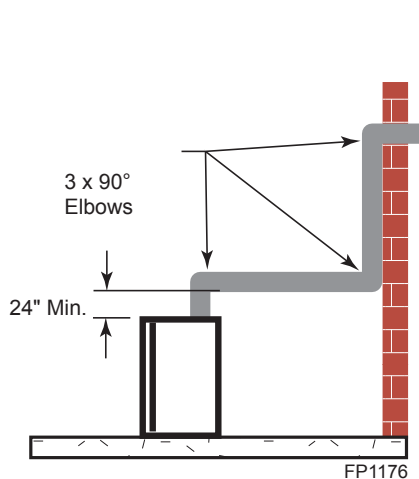
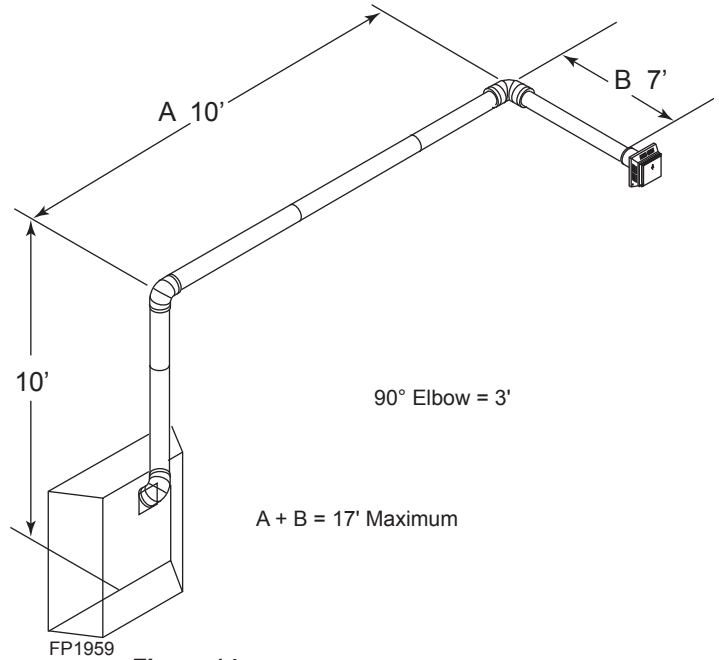

Figure 11 - Maximum Three (3) 90° Elbows Per Installation
Figure 14 - Maximum Vent Run with Elbows
- The maximum number of 90° elbows per side wall installation is three (3). *Figure 11*
- If a 90° elbow is used in the horizontal vent run (level height maintained) the horizontal vent length is reduced by 36". Refer to Page 17, *Figures 11 and 12*. This does not apply if the 90° elbows are used to increase or redirect a vertical rise. *Figure 14*